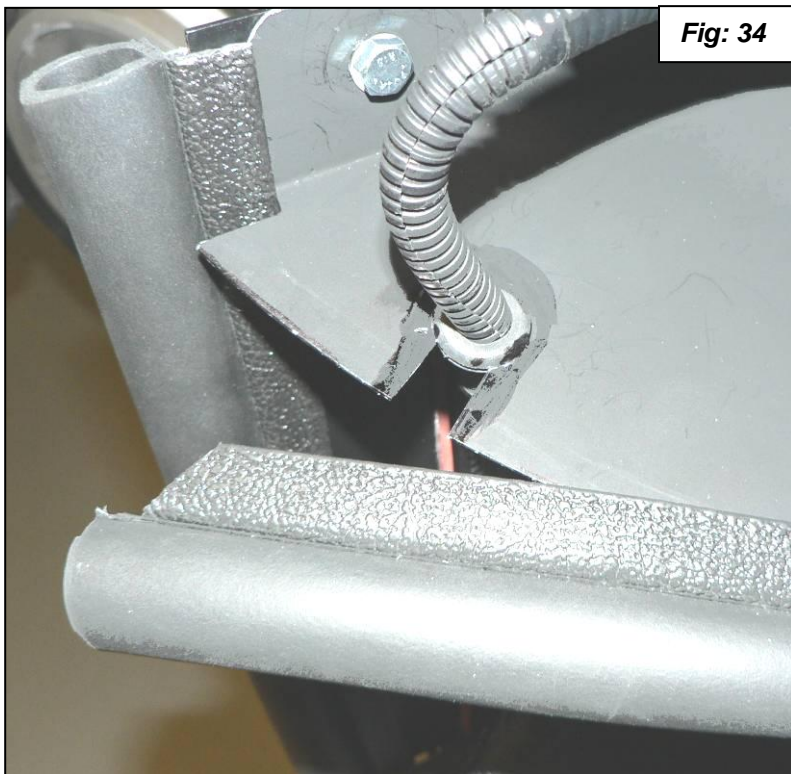

Fig: 34
36. Pull the upper edge seal back far enough to put the rubber grommet around the wire for the fog light as shown in figure 34.